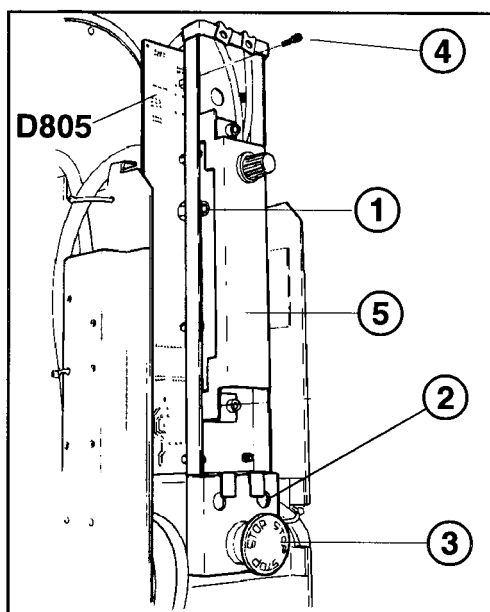

Fig. 9
- Remove the two screws (1/Fig. 9) under the presetting angle potentiometer after removing the potentiometer holder (5/Fig. 9)
- Remove the two screws (2/Fig. 9) above the emergency stop button (3/Fig. 9).